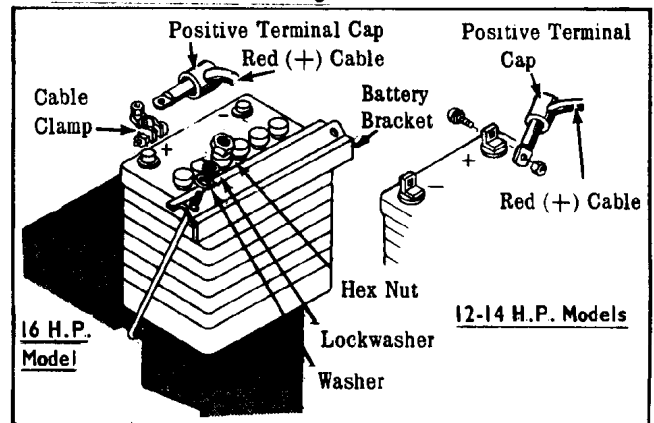

Figure 4
4. Remove the nut, lockwasher and washer from each battery mounting rod and remove the battery mounting bracket (See Fig. 4).
9. Insert filler caps into filler holes and place battery on shelf in front of the instrument panel. **BATTERY TERMINALS MUST BE TOWARD THE GAS TANK.** (See Fig. 4).
10. Remount the battery to the tractor as shown in Figure 4. Place the battery bracket against the battery. Install the J-shaped battery rods, washers, lockwashers and nuts and tighten snugly. Do not overtighten.
11. Next, connect the two battery cables to the battery terminals (See Fig. 4). Note that the battery on the 16 H.P. model uses terminal clamps with hex nuts to secure the cables. The batteries on the 12 and 14 H.P. models use carriage bolts and nuts without the terminal clamps.
12. The cable leading to the ignition components of the engine is the "hot" cable (red in color) and should be attached to the positive (+) battery terminal in the following manner: Insert the cable end through the positive terminal cap as shown in Fig. 4. Remove the nut from the carriage bolt or clamp provided and place cable eye onto threads. Secure cable eye in place with the nut.